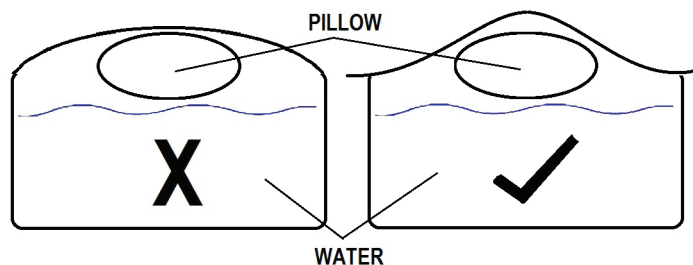

Fig. 3
7. Do NOT pull the cover tightly, allow it to hang around the center pillow as shown (Fig. 3).